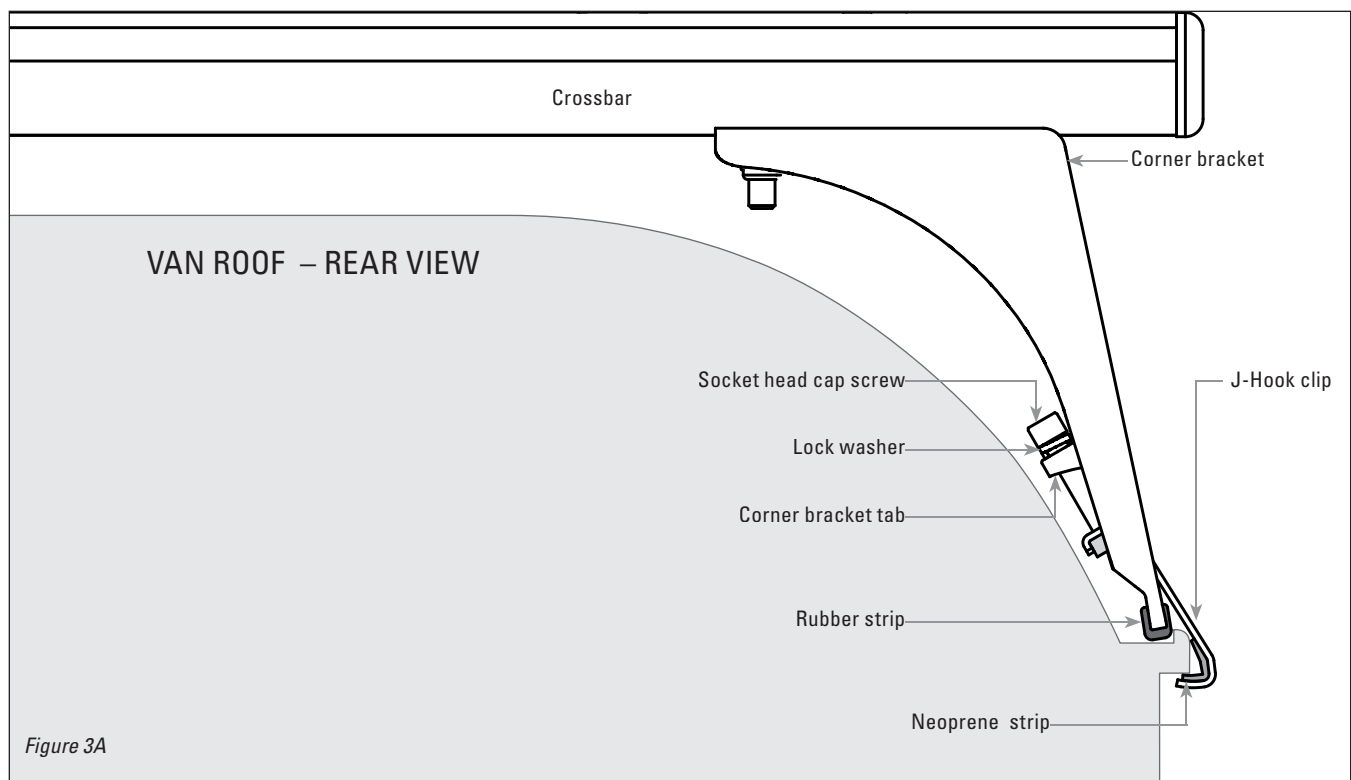

Figure 3A
8. The lower edge of each Corner Bracket fits snugly into the top corner of the van's rain gutter. Place the J-Hooks with Neoprene Strips around the outside edge of rain gutter (see Fig 3A).